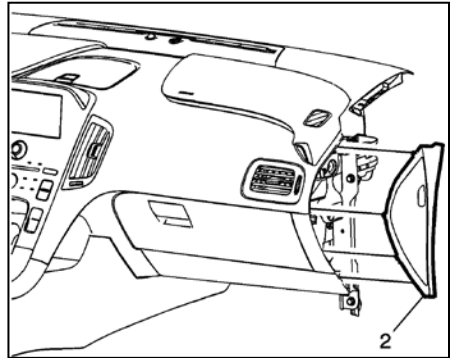

Fig. 1
5. Remove passenger side instrument panel side trim panel (see Fig. 1). Use a flat-bladed plastic trim tool to aid in removal of side trim panel from instrument panel assembly.